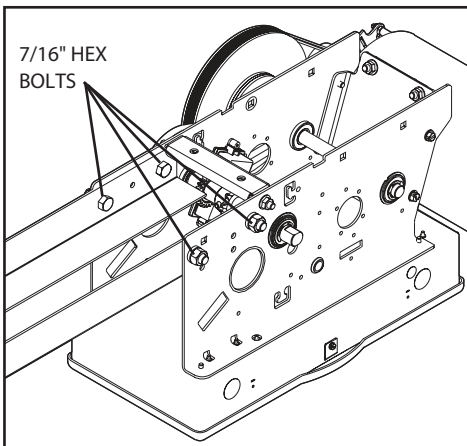

Figure 2
- 1) Attach Rails to Power Unit using four (4) 7/16"-14 x 1" hex bolts, 7/16"-14 hex nuts and 7/16" lock washers (provided). **Fig. 2.**